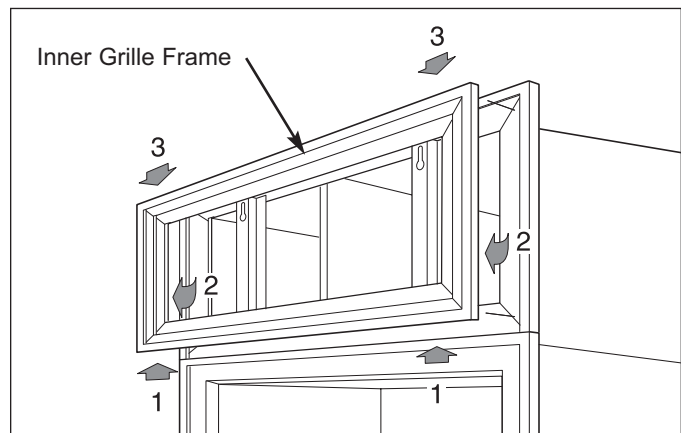

Figure 7-4. Inner Panelized Grille Frame
**Inner Grille Frame Removal** - To remove the inner grille frame (See Figure 7-4):